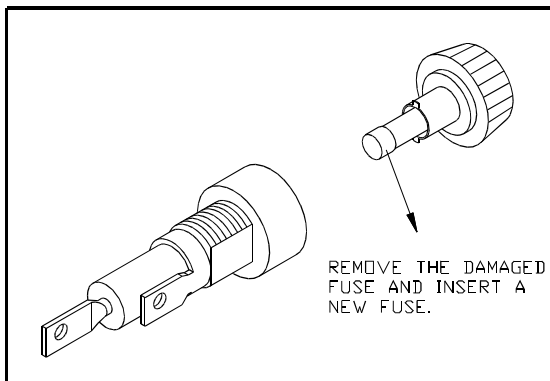

Fig.14-3
3. Install the new batteries. (see Fig 14-3)